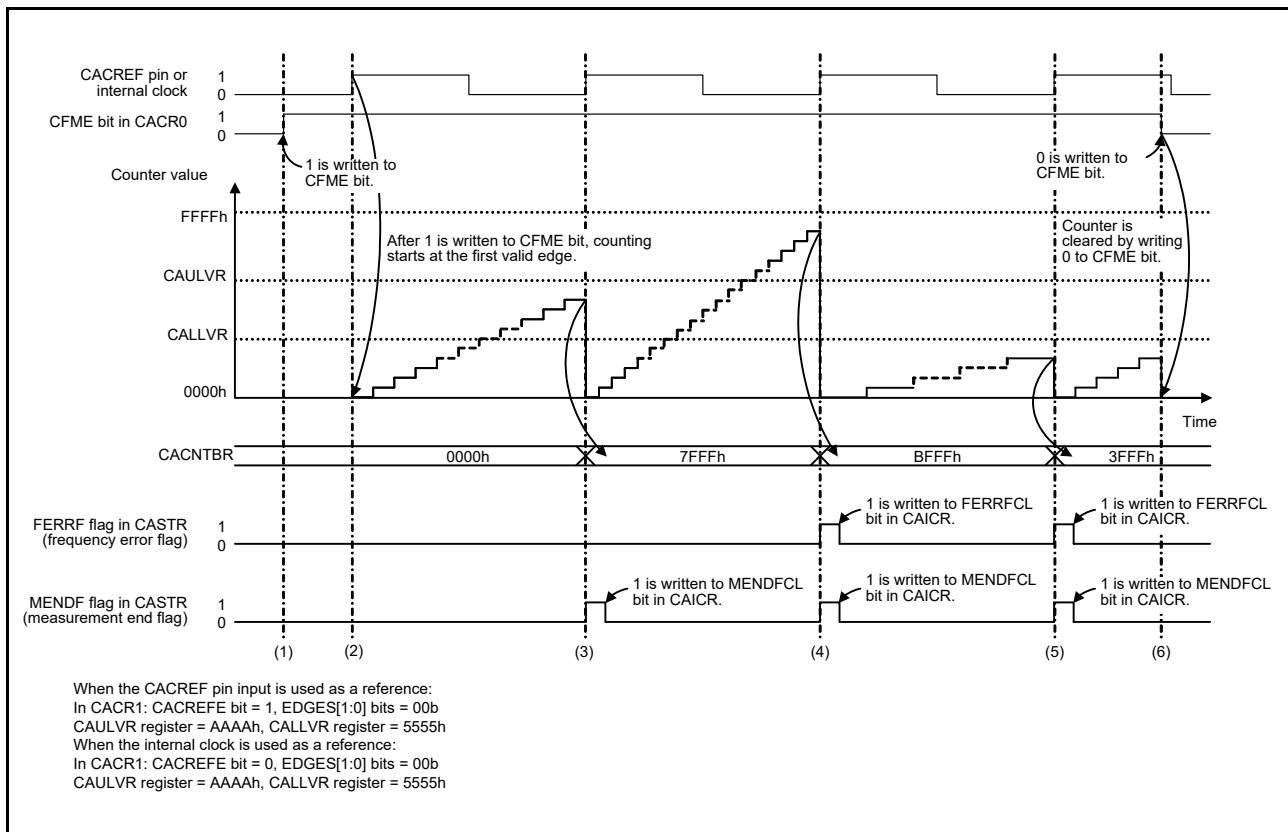

**Figure 10.2 Operating Example of Clock Frequency Accuracy Measurement Circuit**
The clock frequency accuracy measurement circuit measures the clock frequency using the CACREF pin input or the internal clock as a reference. Figure 10.2 shows an operating example of the clock frequency accuracy measurement circuit.
- (1) When the CACREF pin input is used as a reference (CACR1.CACREFE bit = 1), clock frequency measurement is enabled by writing 1 to the CACR0.CFME bit while the CACR2.RPS bit is 0 and the CACR1.CACREFE bit is 1. On the other hand, when the internal clock is used as a reference (CACR1.CACREFE bit = 0), clock frequency measurement is enabled by writing 1 to the CACR0.CFME bit while the CACR2.RPS bit is 1.
- (2) When the CACREF pin input is used as a reference, the timer starts up-counting if the valid edge selected by the CACR1.EDGES[1:0] bits is input from the CACREF pin after 1 is written to the CFME bit. The valid edge is a rising edge (CACR1.EDGES[1:0] = 00b) in Figure 10.2.
When the internal clock is used as a reference, the timer starts up-counting if the valid edge selected by the CACR1.EDGES[1:0] bits is input based on the clock source selected by the CACR2.RSCS[2:0] bits after 1 is written to the CFME bit. The valid edge is a rising edge (CACR1.EDGES[1:0] = 00b) in Figure 10.2.